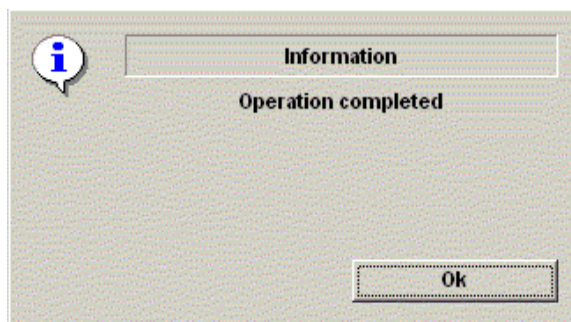

Figure 4-17 Format Successful Pop-up Menu
- 5.) The Ultrasound system displays a pop-up menu, as shown in Figure 4-17. When the formatting has been completed, press OK to continue.